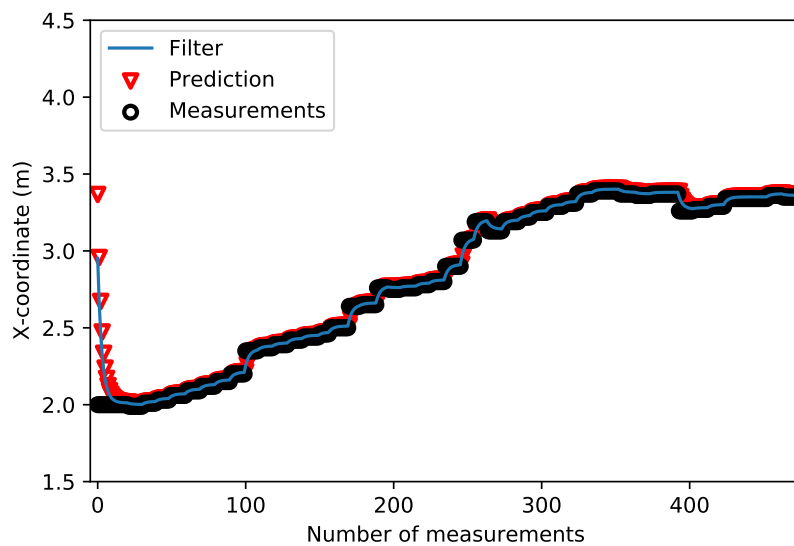
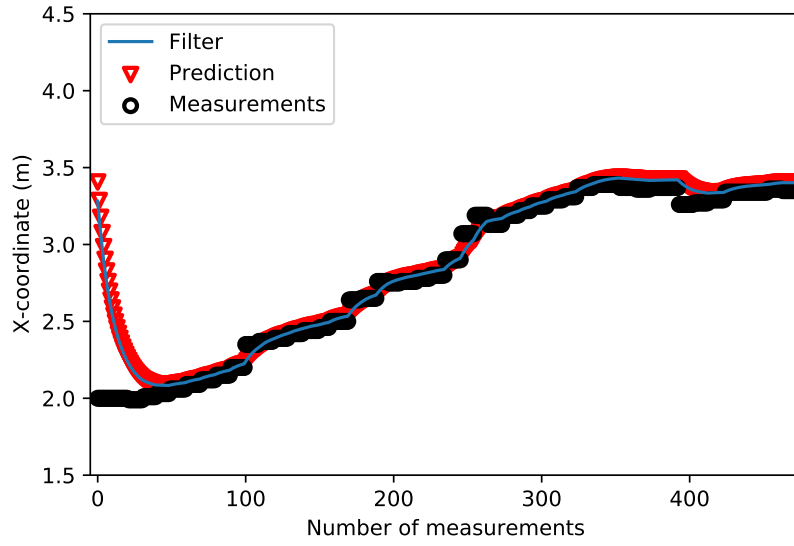

Figure 7: Single movement plot with $\text{sensor_var} = 0.077 ** 2$
Figure 8: Single movement plot with $\text{sensor_var} = 0.3 \times 2$
- A bigger sensor measurement variance can make the localisation trajectory from Figure 7 smoother, which is closer to the real movement process, as shown in Figure 8.